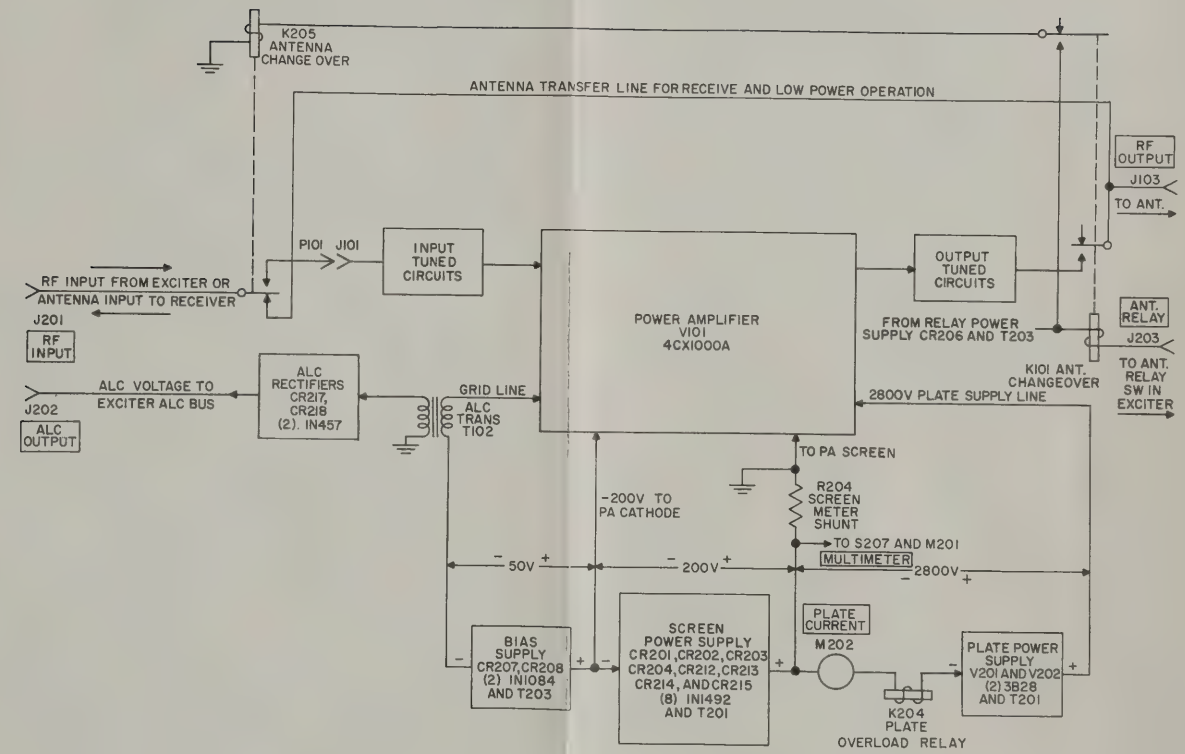

Figure 7. 30S-1, Block Diagram
Figure 7 is a block diagram of the 30S-1 RF Linear Power Amplifier. The power amplifier stage is a single ceramic tetrode which is cathode driven. The control grid is grounded for rf by capacitor C104, and the screen grid is connected directly to ground. The plate power supply, the screen grid power supply, and the control grid bias supply are connected in series. The junction between the plate power supply and the screen grid power supply is grounded through the screen current meter shunt. This arrangement places the cathode at negative potential with respect to the screen grid. The bias supply is connected between the cathode and the control grid. Provisions are included for rf negative feedback to improve linearity and for automatic load control to prevent overdrive.
Refer to figures 7 and 16. Pi-network broad-tuned circuits and the interconnecting rf feedline match the 50-ohm input impedance to the cathode impedance, which is approximately 100 ohms. The 20.5-foot length of cable (furnished) is necessary between the 32S-1() (or KWM-2) driver and the 30S-1 input circuits. This is due to the necessity of having an even multiple of 180-degree phase shifts between driver plate and power amplifier grid. The cable length and the 30S-1 input circuits together accomplish this. An even multiple of 180-degree phase shifts is necessary because the varying drive intensity causes a change in the PA cathode impedance which is translated to a shift in reactive impedance at the driver plate. The shift in reactive impedance, at the driver plate, results in phase modulation of the driver and increases the total overall distortion of the system. A 2.5-foot additional length of cable
4.4 POWER SUPPLY CIRCUITS. (Refer to figures 7, 8, 9, and 16.)